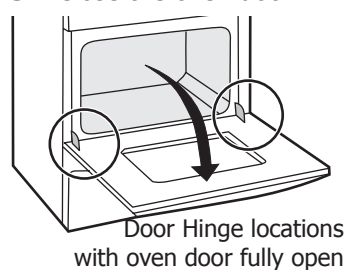

Figure 1
1. Open oven door completely (horizontal with floor - See Figure 1).
3. Fully open the oven door (horizontal with floor - See Figure 1).